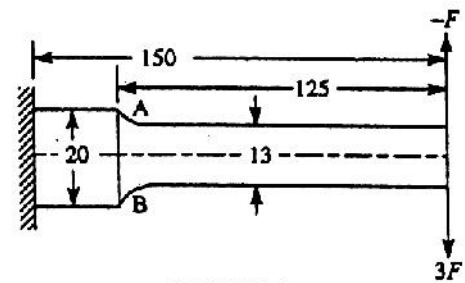

FIGURE-1.
4. A cantilever beam made of cold drawn carbon steel of circular cross-section as shown in **FIGURE -1**, is subjected to a load which varies from **-F to 3F**. Determine the maximum load that this member can withstand for an indefinite